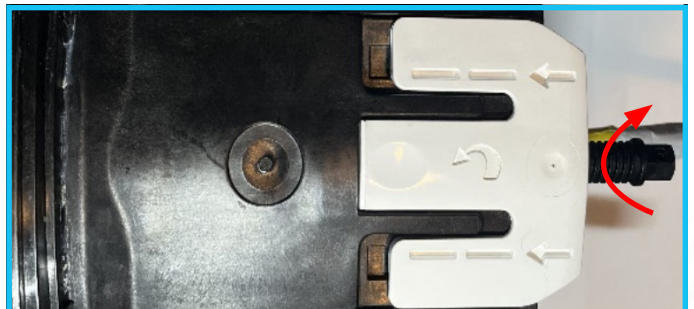

Figure 8.5
6. Fully tighten the sealing wedge compression screw [figure 8.5].